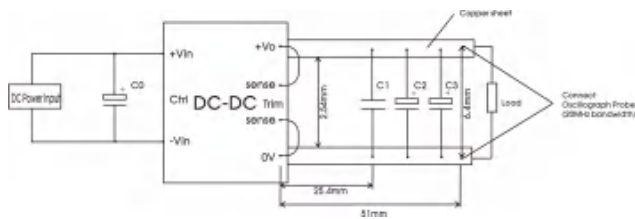

Fig.4
Note:①For ripple and noise measuring method,please refer to Fig. 4 .
All the DC-DC converters of this series are tested before delivery using the recommended circuit shown in Fig. 4.